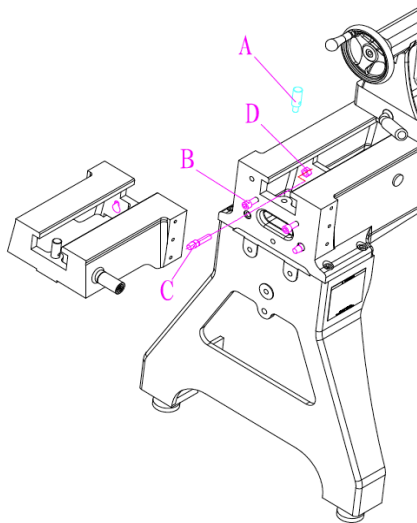

Fig. 9
- 1, With an assistant, attach the extension bed to lathe bed right end with two head cap bolts B. Slightly tighten the bolts. These two bolts must be taken off as soon as swing away system assembly is completed (Fig.9)
- 5, Put the two eccentric pivot pins in lathe bed, turn the pins until it slightly touch extension bed bottom. Secure pivot pins with nuts D (Fig.9)